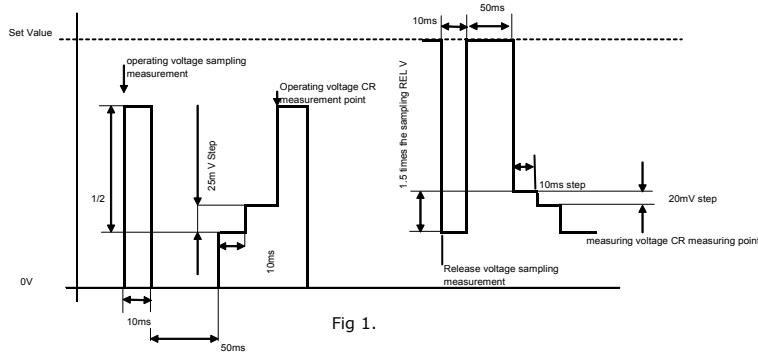

Fig 1.
Measure the operating/release voltage under the measuring conditions specified in the following Fig. 1.
1. Measure the operating voltage times per second. (See Fig. 1.) Measure the voltage the instant the contacts touch. Boost the voltage in 25mV increments at 10ms intervals for each measurement.
2. Measure the release voltage five per second. (See Fig. 1.) Measure the voltage the instant the contacts separate. Lower the voltage in 25mV increments at 10ms intervals for each measurement.